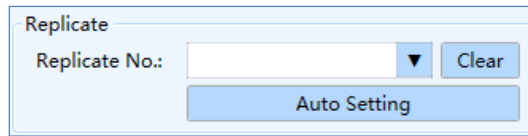

Figure D-6.5 Sample Setting interface - Replicate
- **Replicate**: according to experiment requirements, user can classify the same samples into one replicate group in the **Replicate** group setting box, as shown in figure D-6.5.